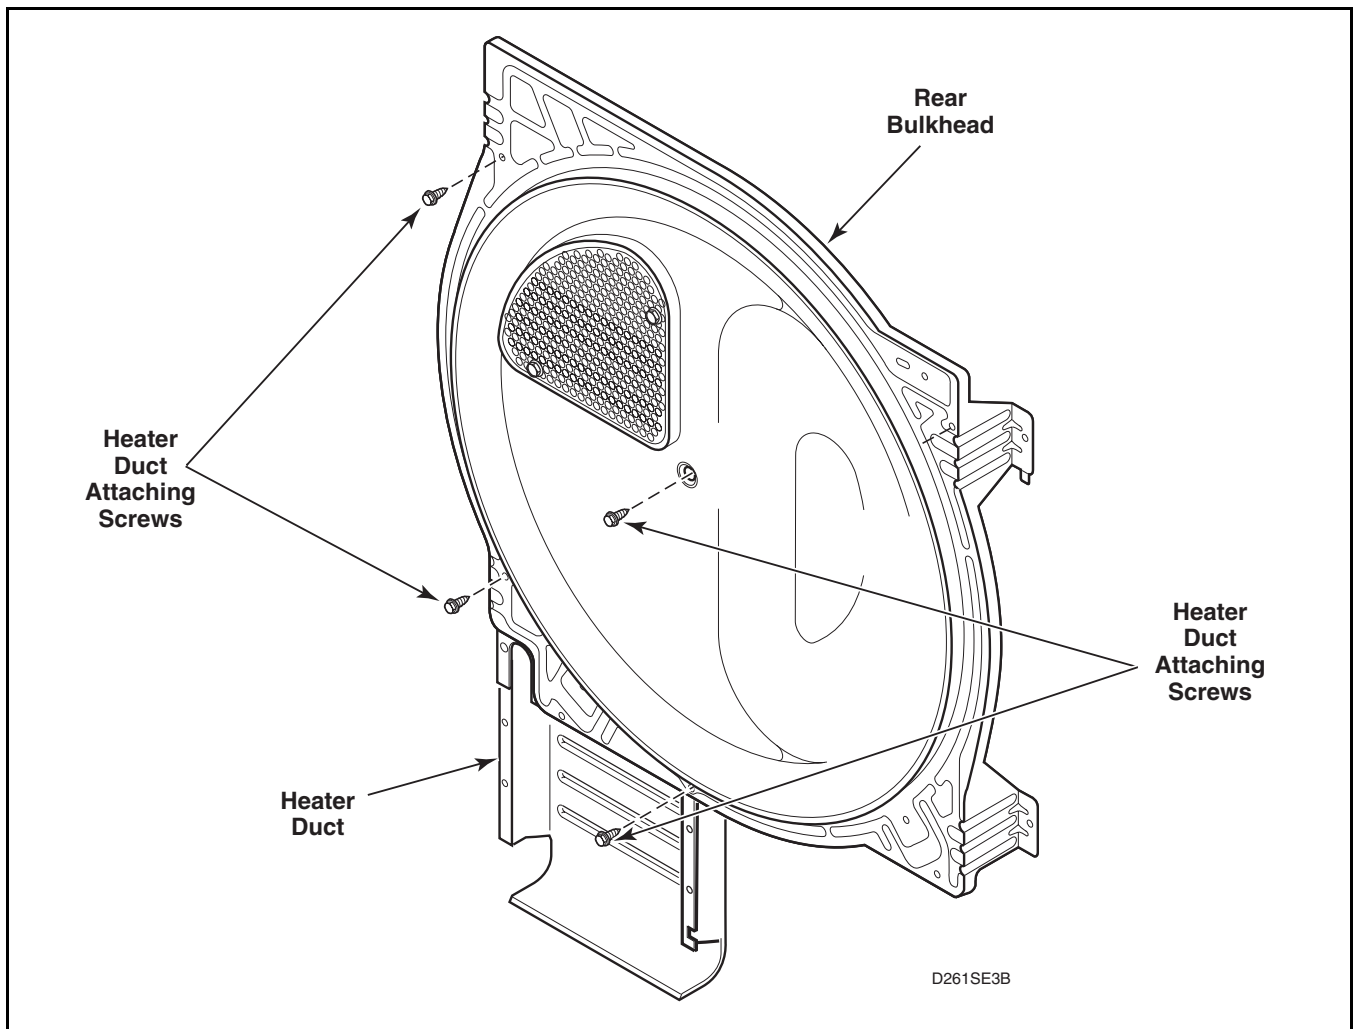

Figure 55
- l. Remove heater duct from rear bulkhead. Refer to *Figure 55*.